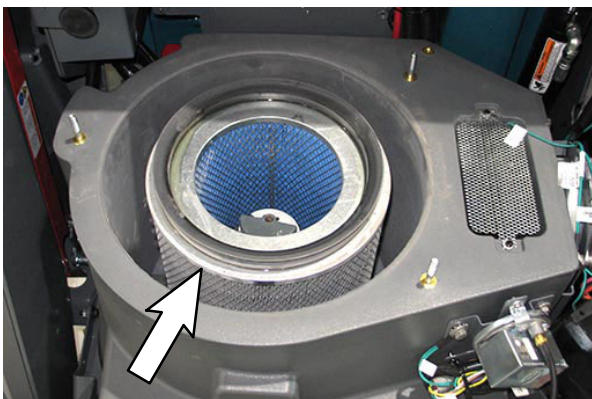

**FIG. 2**
3. Remove the sweep drive belt cover from the sweep drive arm assembly. Set the sweep drive belt cover and all mounting hardware aside. (Fig. 2)